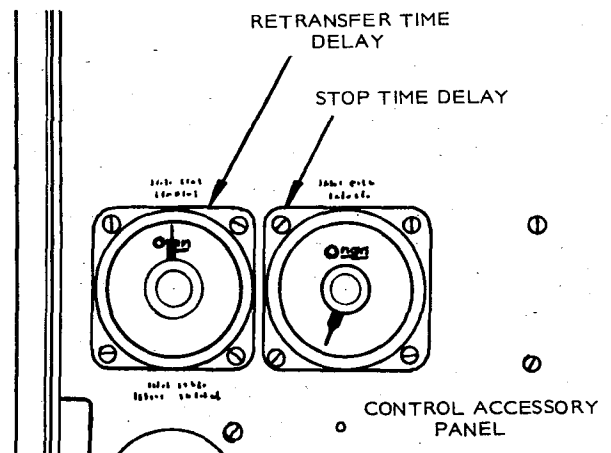

FIGURE 15. STOP AND RETRANSFER TIME DELAY RELAYS
2. Set the time delay by turning the adjustment knob in the center of the delay. See Figure 15.